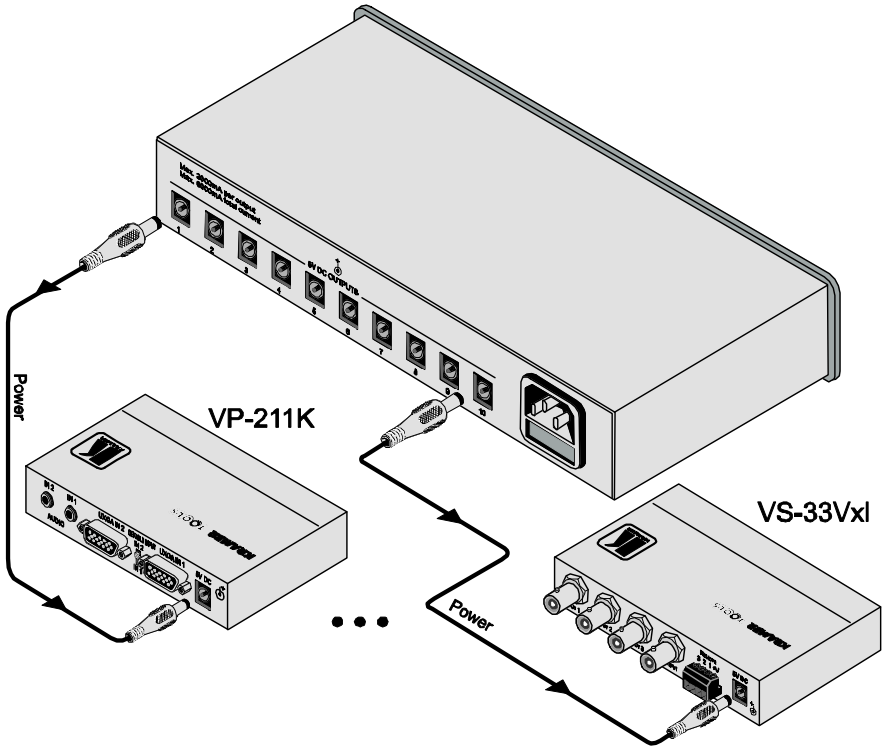

Figure 2: Connecting the VA-100P-5 Power Supply
To use your **VA-100P-5**, as the example in Figure 2 illustrates, do the following:
1. Connect up to 10 power outlets, using DC-to-DC cables¹. The example in Figure 2 illustrates how to connect the 5V DC OUTPUT 1 power outlet to the 5V DC power socket on the Kramer **VP-211K Automatic UXGA / Audio Switcher**, and how to connect the 5V DC OUTPUT 10 power outlet to the 5V DC power socket on a Kramer **VS-33Vxl 3x1 Video Switcher**.